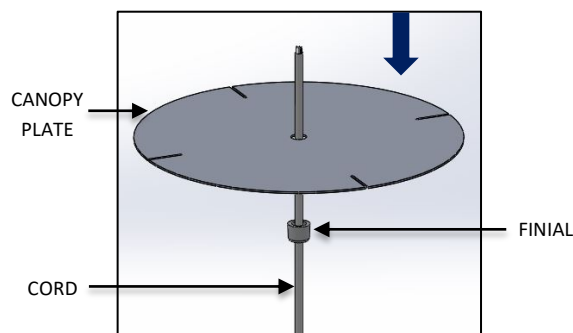

FIG. 13 – CANOPY PLATE AND FINIAL INSTALLATION
4. Pass the FINIAL and the CANOPY PLATE through the CORD as shown in FIG. 13 below.